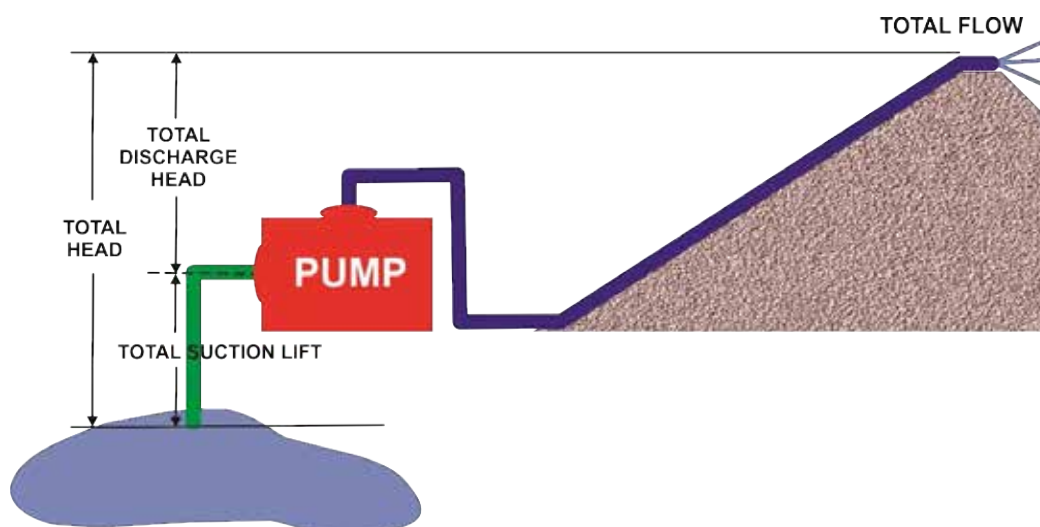

Figure 7. Pump Placement
1. It is advantageous to place the pump as close as possible to the water source (Figure 7) on a solid, level operating surface. The most critical factor for successful pump operations is not to exceed 25' Total Suction Lift (at sea level).